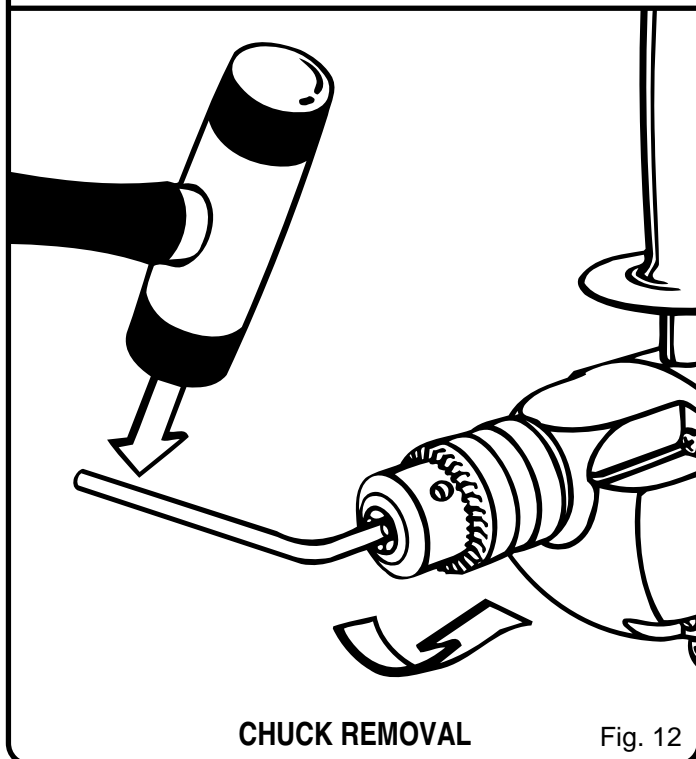

Fig. 12
5. Insert hex key wrench in chuck and tighten chuck jaws securely. Tap sharply with a mallet in a counterclockwise direction. This will loosen the chuck on the spindle. It can now be unscrewed by hand. See Figure 12.